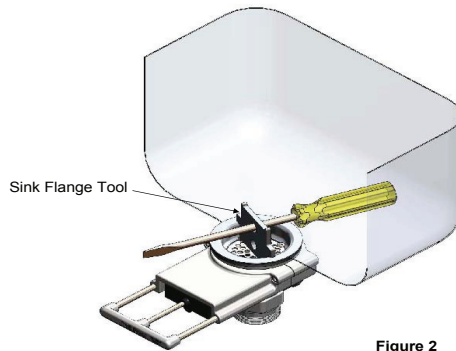

Figure 2
5. Before tightening, position the waste drain Handle to the desired location. Tighten the Sink Flange Assembly securely with the Sink Flange Tool provided. (Figure 2)